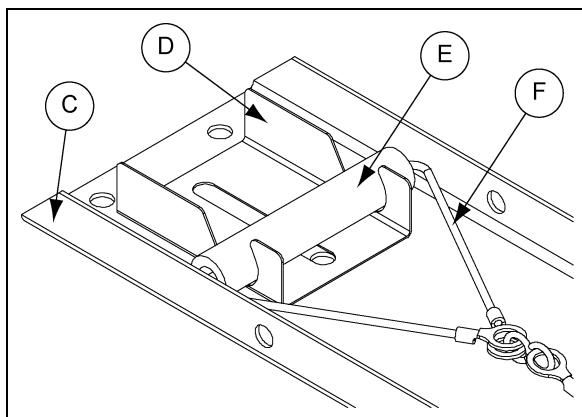

Figure 3 Bracket Orientation
2. Attach the bracket (D) to the shutter frame (C) using the 5/16" slotted bolt (S-6620) and the 5/16" flange nut (S-10268). Align the bracket (D) so the slots on the sides are angled up and away from the center of the shutter (See Figure 3) and center the bracket on the hole.
- Place handle assembly (E) into the slots of the bracket (D). Cable and S-Hook (F) should be toward the center of the shutter. (See Figure 3 on Page 1.)